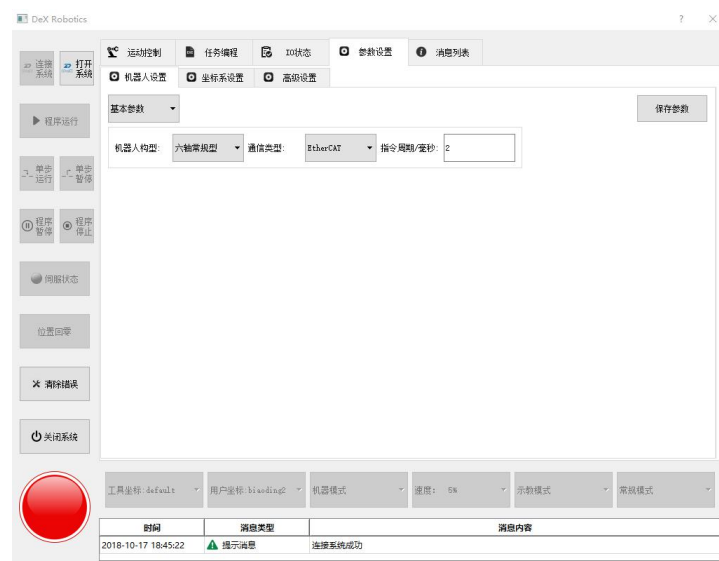
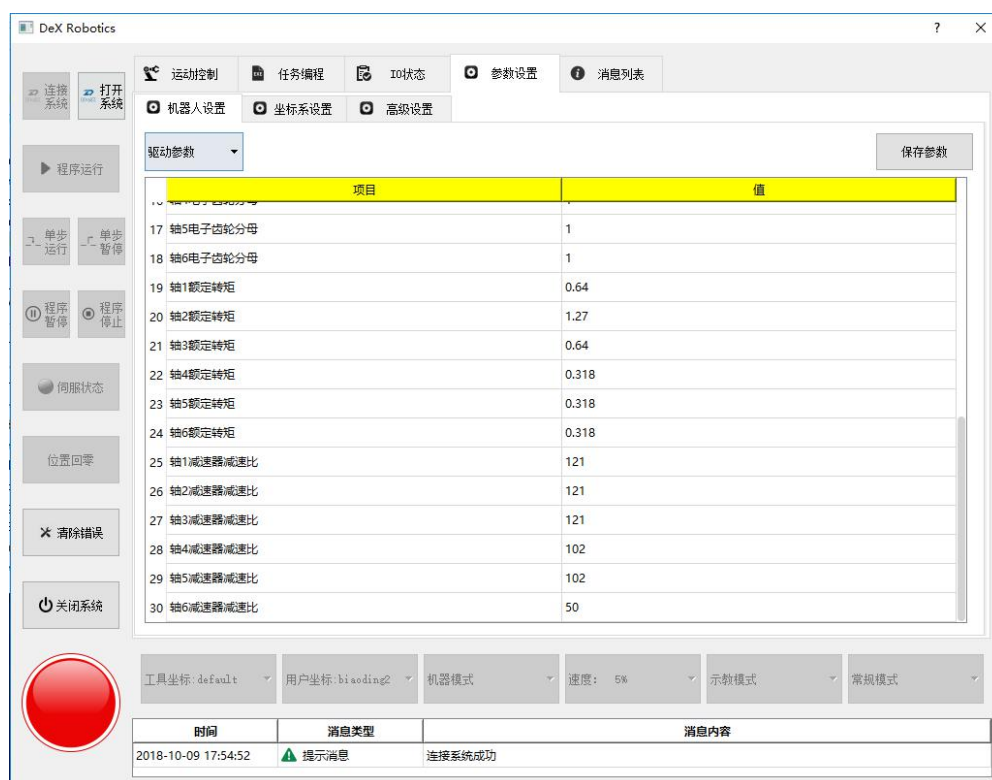
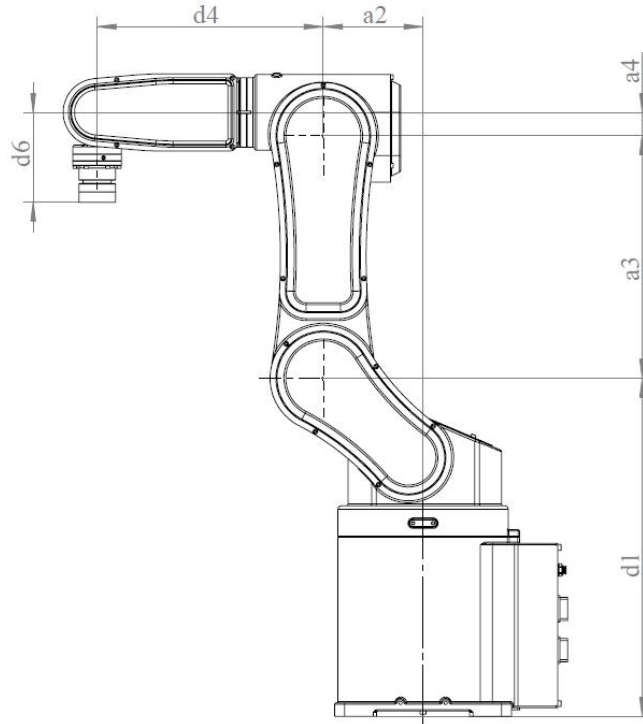
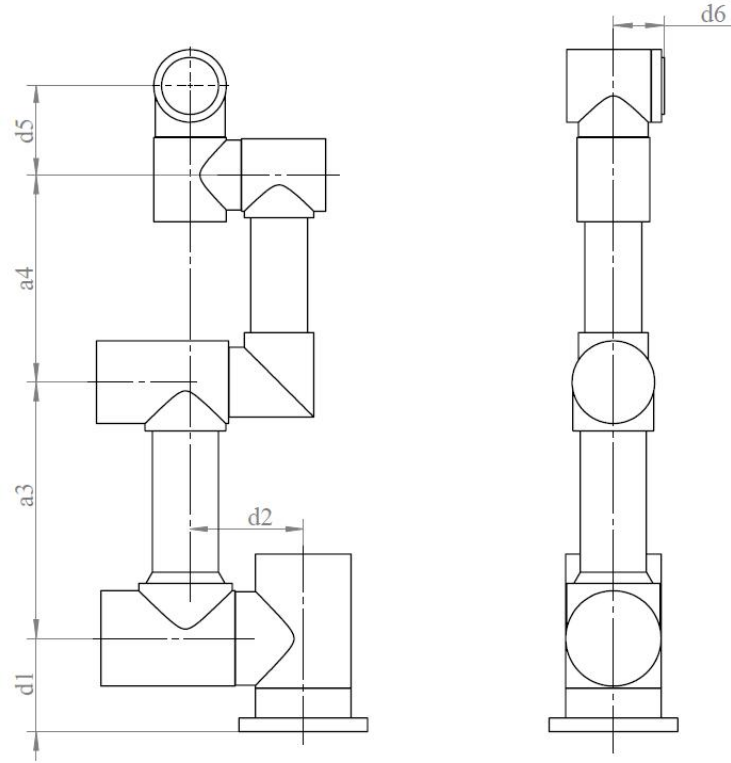

Fig. 7 Parameter Setting Interface
Fig. 8 Drive Parameter Setting
Fig. 10 Structure of Conventional Robot
Fig. 11 Structure of Collaborative Robot
Switch to the tab [Parameter Setting], shown in Fig. 7 as follows:
The interface of drive parameter setting is shown in Fig. 8.
doMotion series control system is integrate with two types of 6-axis industrial robot structures: conventional type and collaborative type. The conventional type robot structure is shown in Fig. 10, which refers to the zero position of conventional robot.
The DH parameters of conventional robot are shown in Fig. 7 as follows. Normally, the values of alpha and theta are non-changeable; all the zero values in a and d are also non-changeable. The non-zero values should be filled according to the actual robot sizes shown in Fig. 10.
The structure of collaborative robot is shown in Fig. 11 as follows, which refers to the zero position of collaborative robot.
The DH parameters of collaborative robot are shown in Fig. 8 as follows. Similarly, the non-zero values in a and d should be filled according to the actual robot sizes shown in Fig. 11 and the other values should not be changed.
- 1) Switch to [Motion Control] for demonstration (see Chapter 3 for details) and adjust the robot to the zero-position shown in Fig. 10 or Fig. 11;